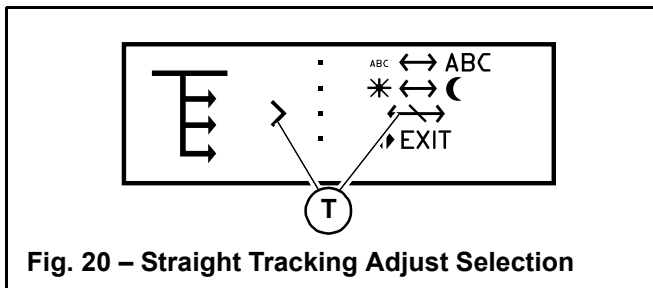

Fig. 20 – Straight Tracking Adjust Selection
5. Press and release the interface button until the selection caret points to the straight tracking adjust  $\longleftrightarrow$  selection (T, Fig 20).